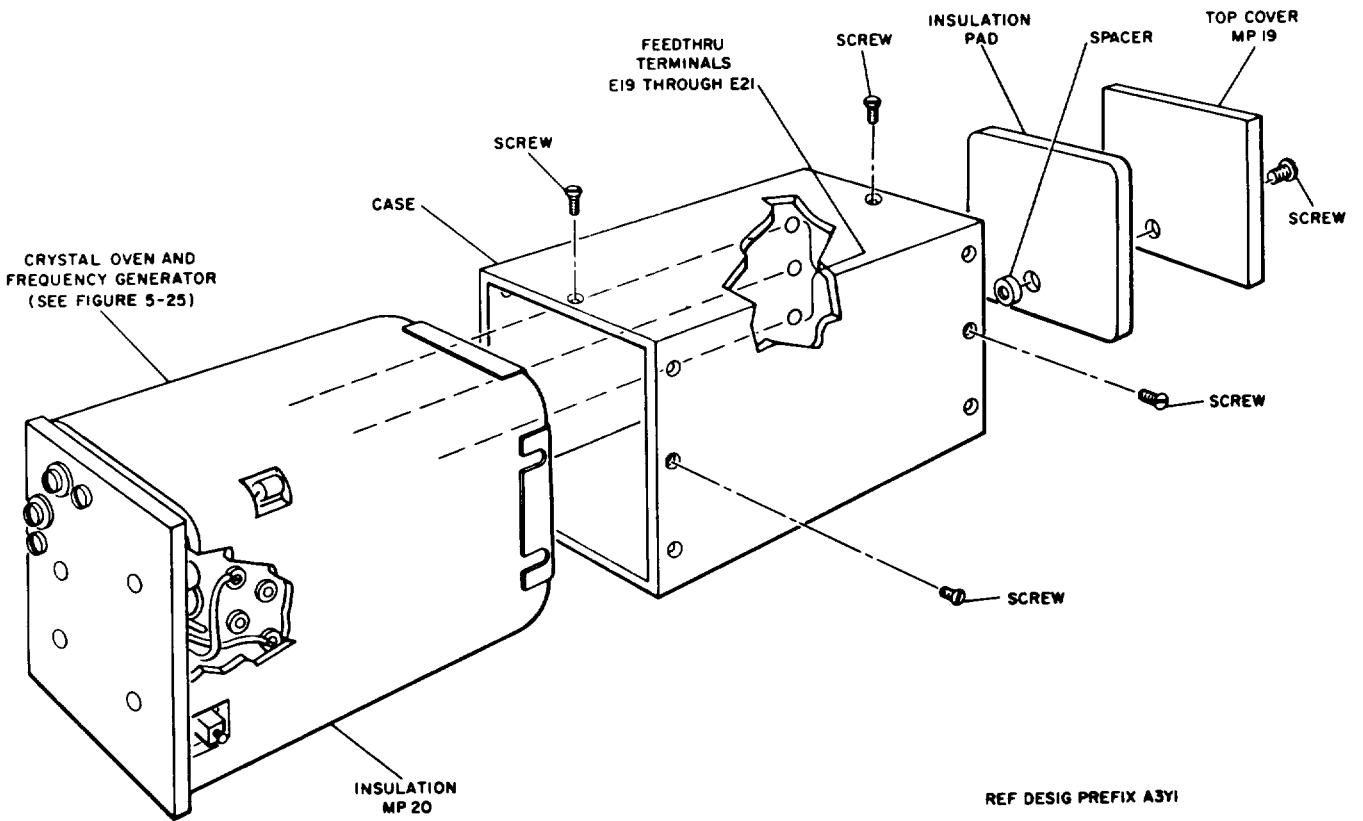

Figure 5-24. Disassembly of 1-MC Oscillator A3Y1 (OVENAIRE)
(1) Remove and save the eight screws (four on each side) from the case of the 1-me oscillator (see figure 5-24).
(2) Remove and save the screw and washer that secure the top cover A3Y1MP19 and remove the top cover and insulation pad.
(3) Unsolder the yellow, red, and black leads from the feedthru terminals A3Y1E19 through A3Y1E21.
(4) Slide the 1-me oscillator out of its case;